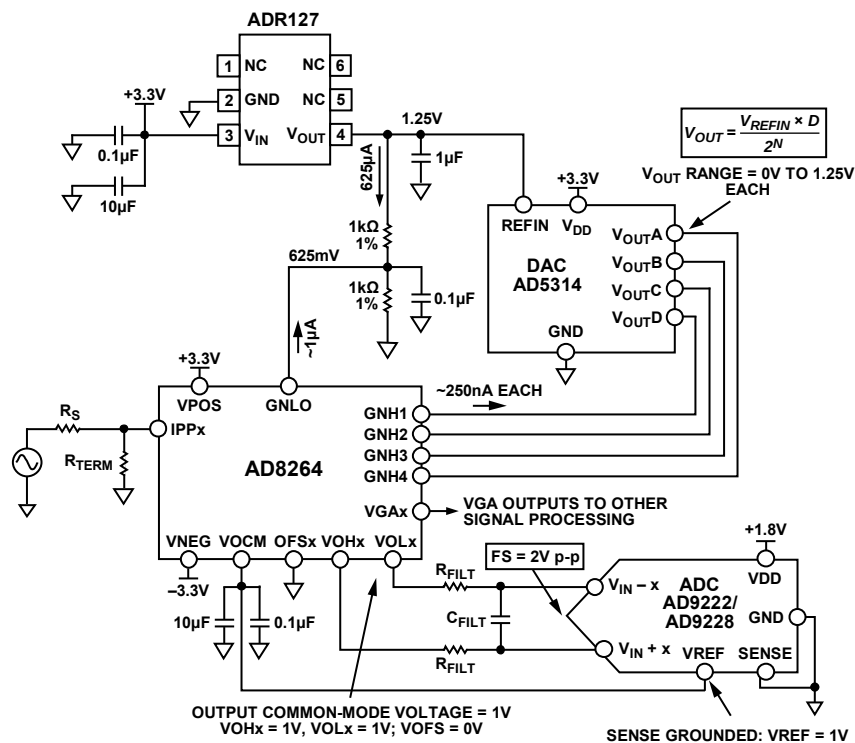
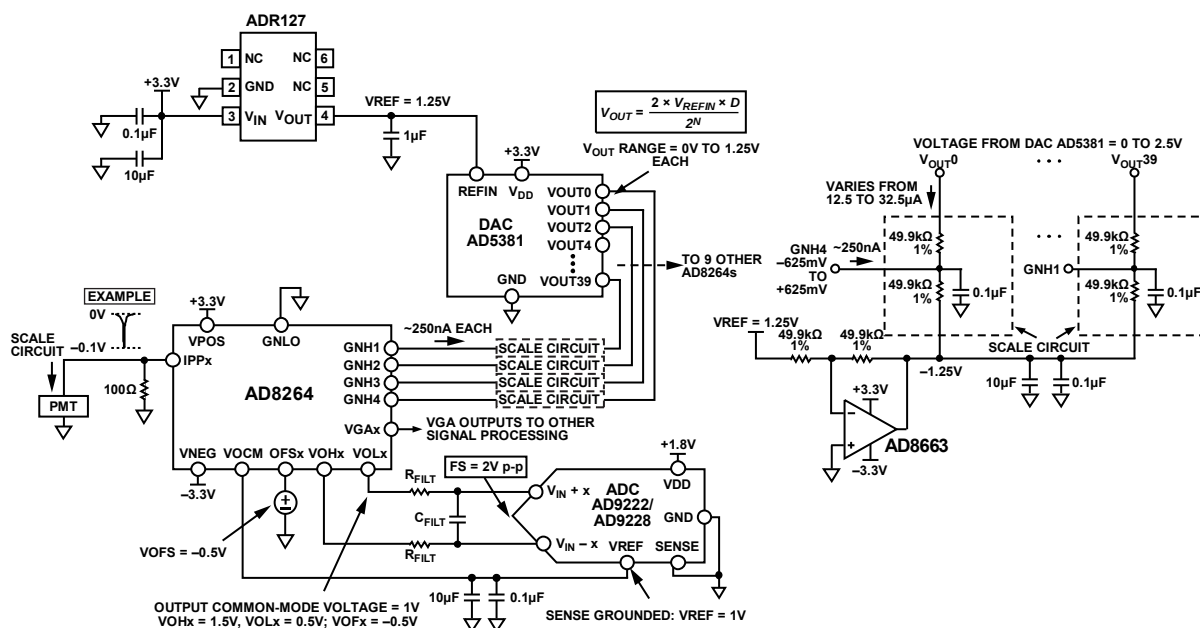

Figure 112. Application Concept of the AD8264 with the AD5314 10-Bit DAC and the AD9222/AD9228 12-Bit ADC
Figure 113. Concept Application of AD8264 with 40-Channel AD5381 12-Bit, 3 V DAC and AD9222/AD9228 12-Bit ADC
The AD8264 is particularly well suited for use in the analog front end of medical PET imaging systems. Figure 112 shows how the AD8264 may be used with the AD5314 (a 4-channel, 10-bit DAC) and the AD9222/AD9228 (an octal or quad, 12-bit ADC, respectively). The DAC sets the gain of the AD8264. Note that the full gain span of 24 dB is achieved with this setup because the gain control input range of the AD8264 is very close to 1.25 V. The GNLO pin must offset by $1.25/2 = 625$ mV because the gain control input is bipolar around the voltage applied at GNLO. This is done with two 1 k Ω , 1% resistors. The approximately 1 μ A of bias current flowing from the GNLO pin does not contribute a significant error because the basic gain error of the AD8264 is the limiting factor.
Figure 112 also includes the DAC output equation, which indicates that the output can vary between 0 V and $V_{REF} = 1.25$ V.
The single-ended-to-differential amplifier of the AD8264 amplifies the VGA output signal by 6 dB and can provide the required dc bias of the AD9222/AD9228, as shown in Figure 112. The ADC is connected with the default internal reference because the SENSE pin is grounded. With this connection, the AD9222/AD9228 VREF pin is an output that provides 1 V; this is then connected to the VOCM input of the AD8264, which sets the output common-mode voltage of the VOHx and VOLx pins to 1 V. This voltage is very close to the recommended optimal value of $VDD/2 = 0.9$ V. With this configuration, the ADC inputs are set to a full-scale (FS) of 2 V p-p.
The dc connected concept example in Figure 113 is an application with the 40-channel AD5381, 3 V, 12-bit DAC. The main difference between this example and Figure 112 is that, for the same AD9127 1.25 V reference, the full-scale output of the DAC is from 0 V to $2 \times V_{REFIN} = 2.5$ V. Two options for gain control include the following:
- Use the same circuit as in Figure 112 but use only half the DAC output voltage from 0 V to 1.25 V. This is the simplest solution, requiring the fewest extra components. Note that the overall gain resolution increases by one bit to 11 bits over the 10-bit AD5314.
- Ground GNLO and scale the DAC output so that the GNHx inputs vary from -0.652 V to $+0.625$ V. Figure 113 shows a possible circuit implementation using a divider between the DAC output and a -1.25 V reference.
Figure 113 shows how the AD8264 is connected in a PET application. The PMT generates a negative-going current pulse that results in a voltage pulse at the preamplifier input and a differential output pulse on VOLx and VOHx.
A convenient method of verifying and customizing the signal chains shown in Figure 112 or Figure 113 is by ordering the corresponding evaluation boards available on www.analog.com. The AD8264-EVALZ is a platform through which the user can quickly become familiar with the features and performance capabilities of the AD8264. See the Evaluation Board section for more information.